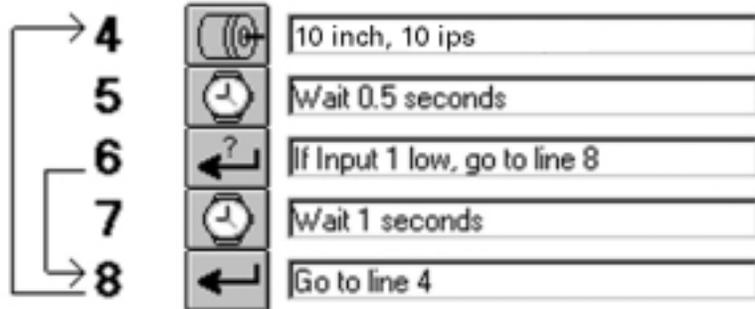

Figure 67
1. It allows skipping part of the program based on an external condition. For example, the MSC's task is to feed parts. Normally the MSC waits only a half second before feeding the next part, because that's how long it takes for the saw to cut the part. However, parts are sometimes made of a different material that takes longer to cut (aluminum vs. steel, maybe). On the days steel parts are run, it would be advantageous to be able to flip a switch and change the delay between parts to 1.5 seconds. Figure 67 shows the program required to accomplish this.